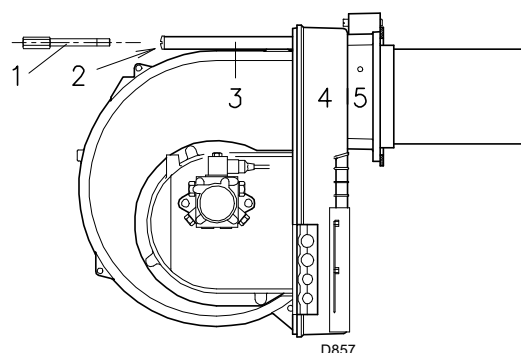

Fig. 15
- Finally remount the burner 4)(Fig. 15) on the slide bars 3) and slide it up to the flange 5), keeping it slightly raised to prevent the flame stability disc from pressing against the blast tube.
- Remove the nuts 1)(Fig. 15) and the disc 2).